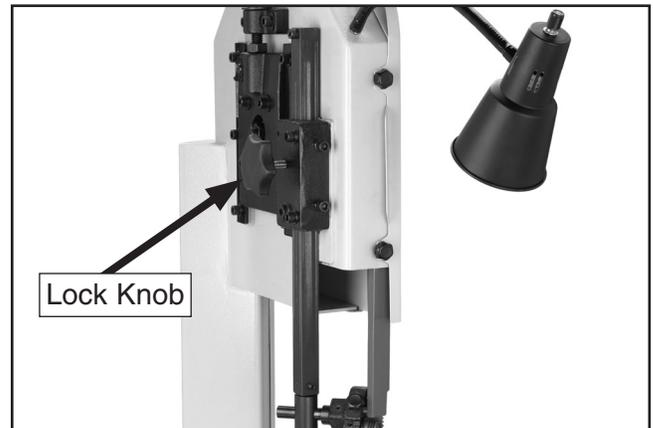

Figure 24. Guide post.
2. Support the guide post with one hand and loosen the lock knob with the other until the guide post slides freely (**Figure 24**).